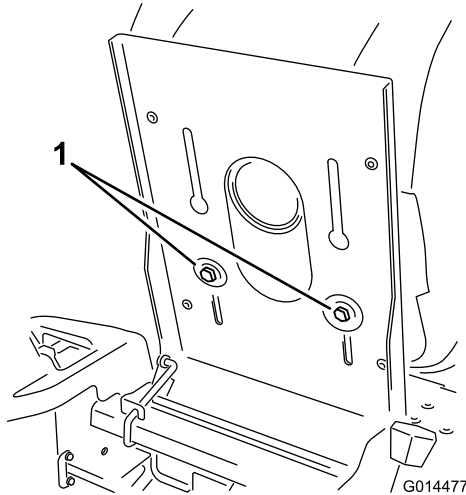

Figure 26
1. Raise the seat and loosen the adjustment bolts just enough that seat can move (Figure 26).